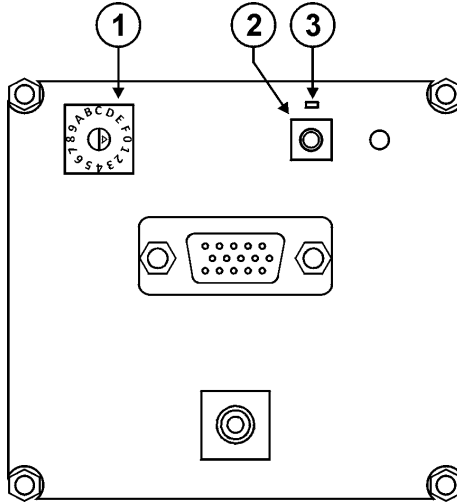

Figure 7: WP-121 PCB Assembly Front View with Face Plate Removed
3. Ensure that the rotary switch (see Figure 7) is in position 0. If it is not, use a small screwdriver to turn it to 0.
5. Press the EDID capture button (see Figure 7).
2. Using a small screwdriver, turn the rotary switch (see Figure 7) to the required position as defined in Table 5.
4. Press the EDID CAPTURE button (see Figure 7).